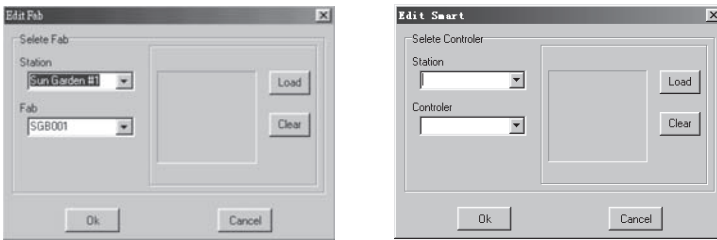

Fig. 4.30 Insert Comat BoxXs
Similarly, you may select the other diagrams, here we will omit the detailed procedure. When you select the **<Image>** option, as in Fig. 4.30, you may insert the **BMP picture files**.
1. Select and click **the icon**  and move the mouse to the drawing interface, the dialogue frame as in Fig. 4.30 will be shown in the system. Then select the corresponding Comat BoxX.